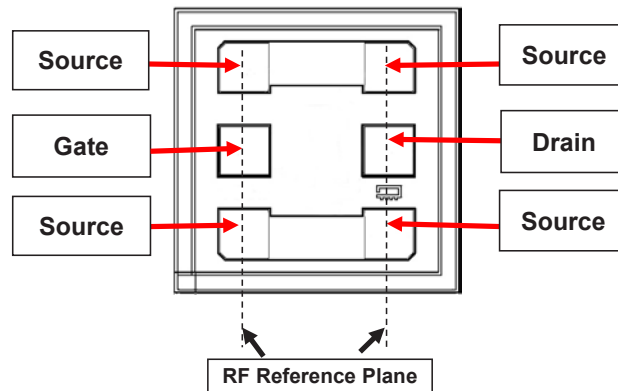

Fig 1. Block Diagram of Test Circuit used.
2. Measured on die using GSG (Ground-Signal-Ground) probe. See figure 1.